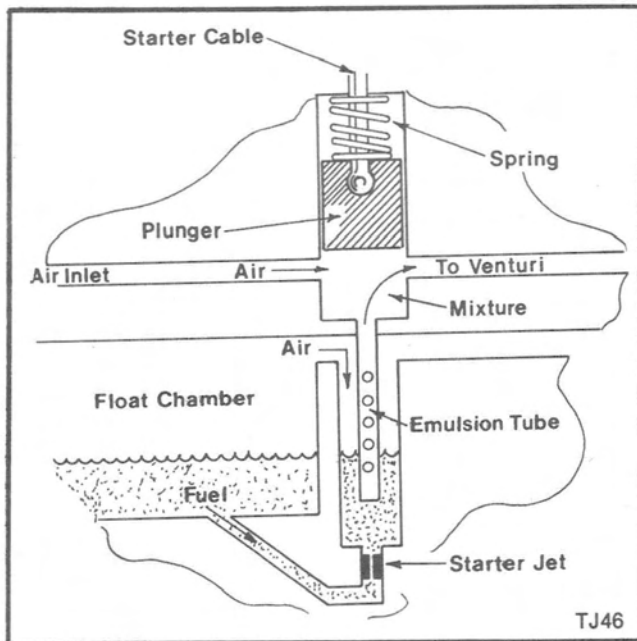

Figure 46
A. Starter System (Choke) (Figure 46)